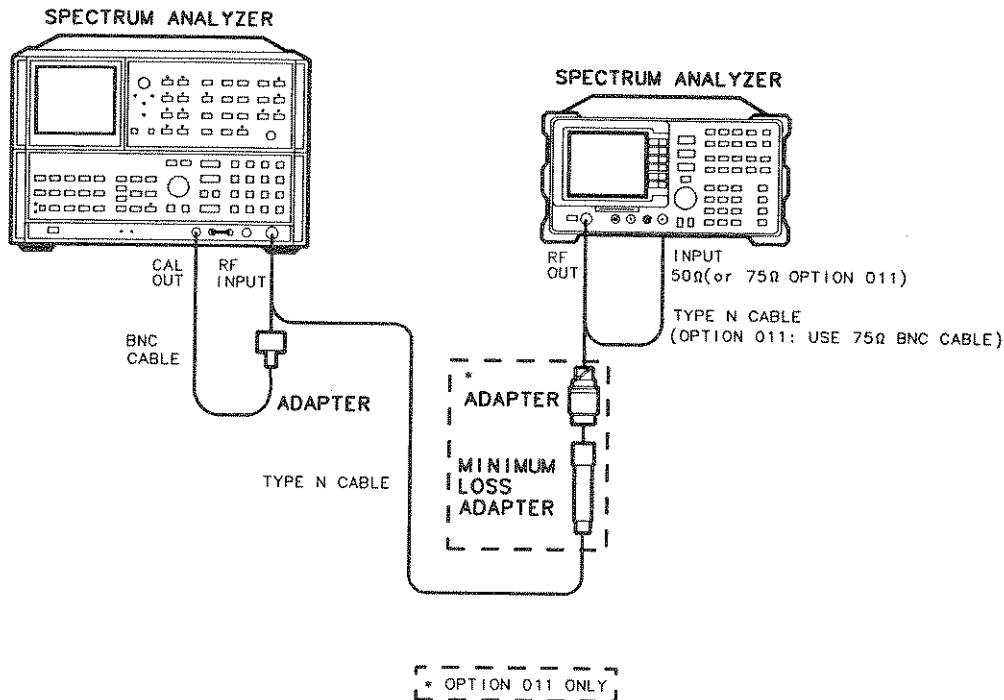

Figure 3-30. Non-Harmonic Spurious Outputs Test Setup
1. Connect the Type N cable between the RF OUT 50 Ω and INPUT 50 Ω connectors on the HP 8591A Spectrum Analyzer. See Figure 3-30.
7. Connect the Type N cable from the tracking generator output to the HP 8566A/B RF INPUT as shown in Figure 3-30.